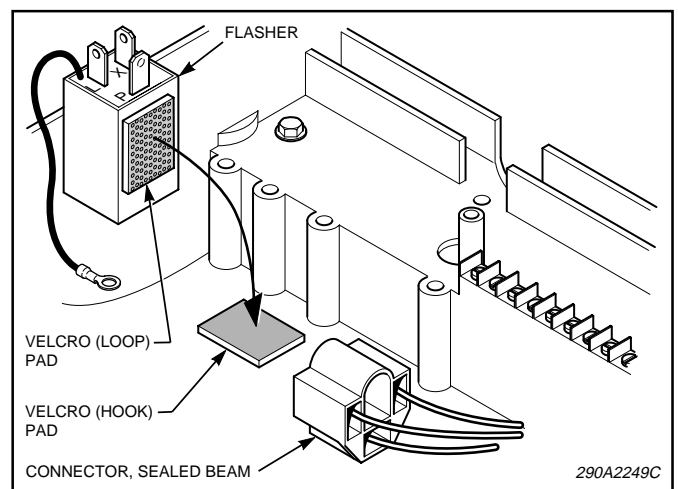

Figure 3.
- a. See figure 3. Remove the backing from the velcro loop pad and affix the pad to the flasher. Remove the backing from the velcro hook pad and affix the pad to the lightbar housing as shown in figure 3.